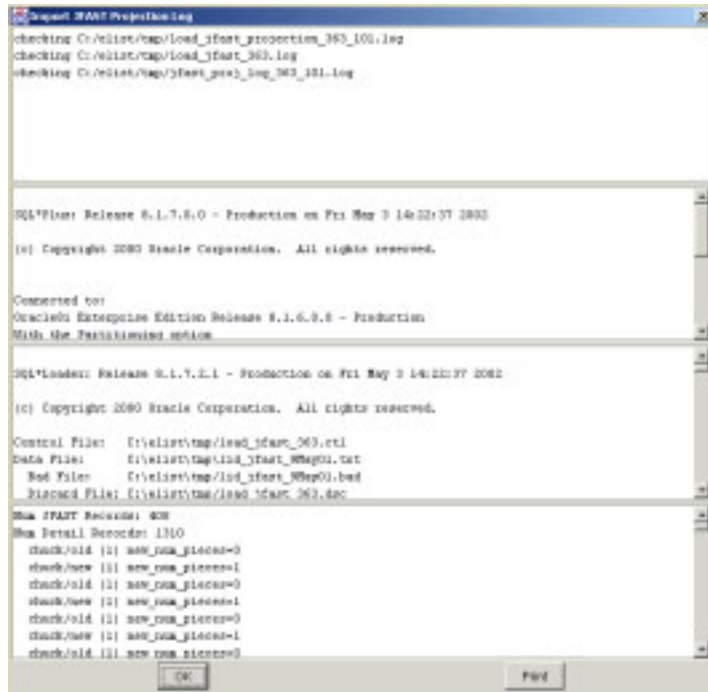

Figure 5.37 Import JFAST Projection Log Window
- To import the JFAST projection, click OK. After several moments, the file is imported and the Import JFAST Projection Log window opens (Figure 5.37).